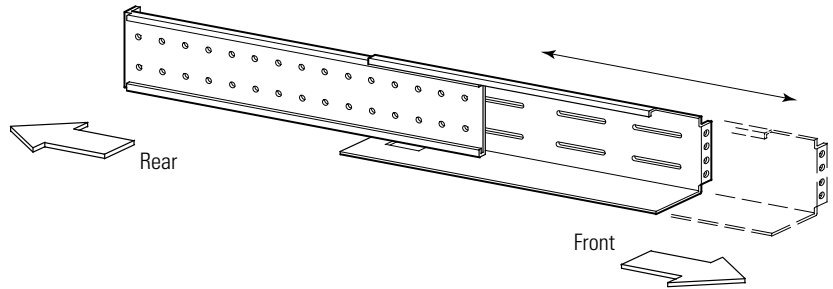
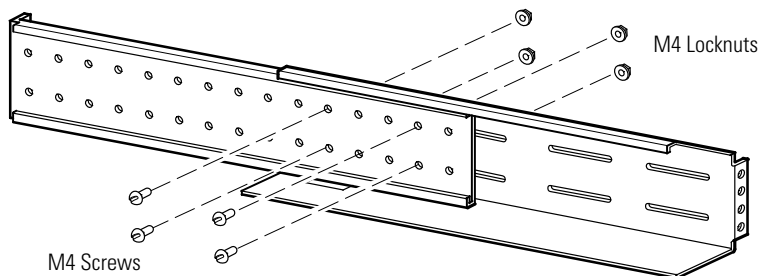

Figure 16. Adjusting the Rail Depth (Right Rail Assembly Shown)
Figure 18. Tightening the Rail Adjustment (Right Rail Assembly Shown)
2. If access to the sides of your rack is difficult, adjust the length of the rails (see Figure 16) and loosely install the fasteners (see Figure 18) before continuing to Step 3.
4. Adjust the rail size on the rail assembly for the depth of your rack (see Figure 16).
7. To tighten the rail adjustment, assemble four M4 machine screws and four M4 locknuts to the middle of the rail assembly. Tighten using a 7 mm (9/32") nut driver. See Figure 18.